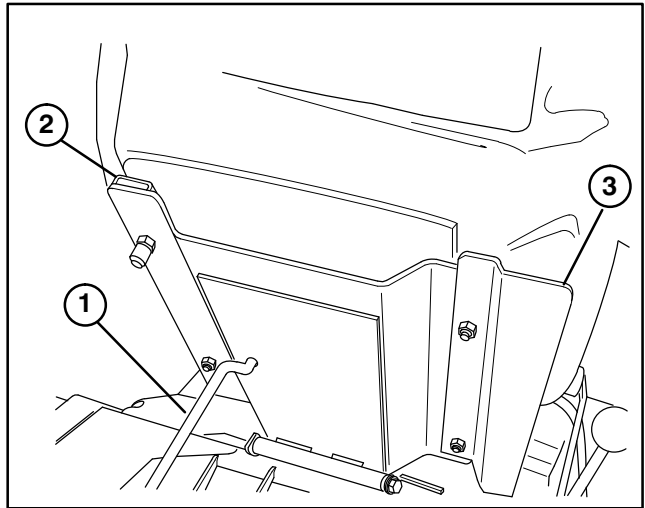

Figure 1
MOUNT SEAT (Fig. 1)
3. Secure seat, seat panel and seat slides to seat support with 5/16–18 lock nuts supplied in loose parts. Seat cover to be mounted on right side, positioned as shown in fig. 1.